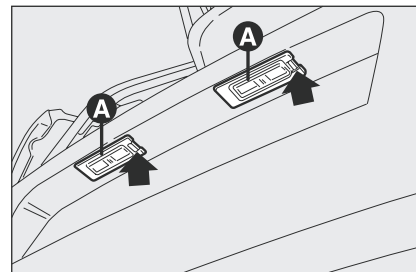

fig. 19
- work in the point shown by the arrow and remove lens **A**-fig. 19;